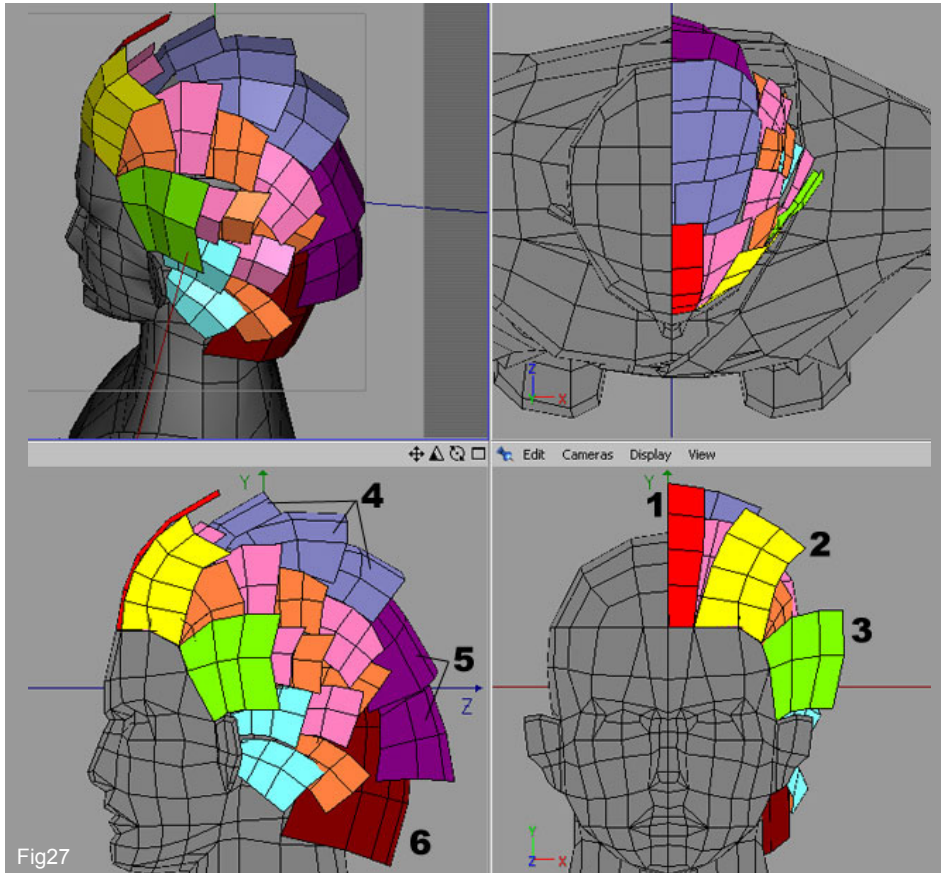

Fig27
27. Once you have finished with the armour and clothing it is time to move onto the hair. Because there are many pieces that make up this area it is unnecessary to individually map every element as it would take up far too much texture space. There will be just under fifty separate meshes that make up the hair but we will only have to map nine of these. The idea is that we map the nine sections and then duplicate them to make up the rest of the hair. These groupings are visible in Fig 27 and are colour co-ordinated to show how they have been organised. In the bottom right you can see that the front three poly's have been separately mapped (numbers 1-3). Along the top of the head there are three blue poly's so you would only map/unwrap one and then copy this twice, snapping the verts to line up exactly with the remaining groups. There will off course be a bit of stretching on the checkermap as each of the meshes varies slightly but nothing serious.